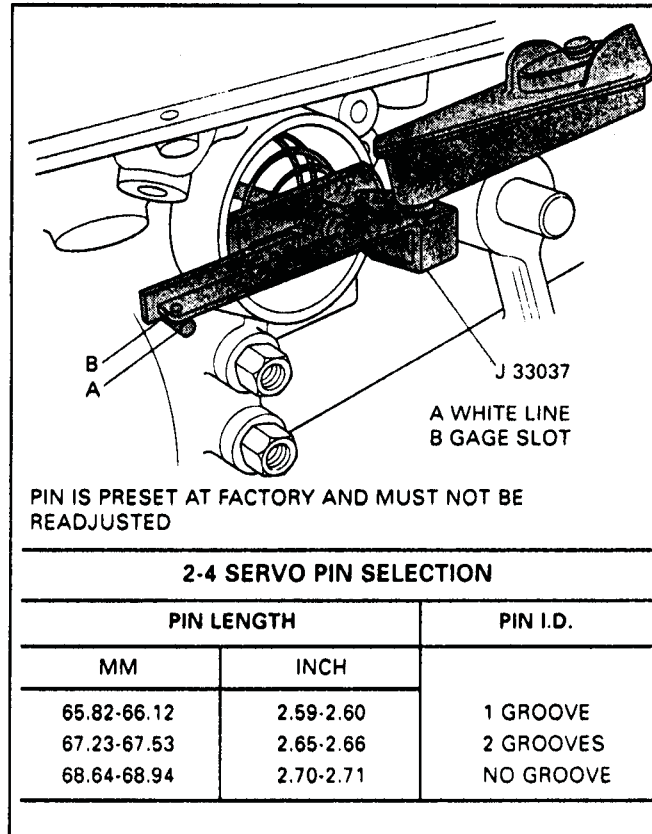

Figure 168
1. Install servo tool J-33037, as shown in Figure 168, with the servo pin you are going to use.
3. Apply 98 in.lb. torque, as shown in Figure 168.
4. If white line "A" appears in the gage slot "B", pin length is correct (See Figure 168).
5. Use the selection chart in Figure 168 to determine the correct pin length if a new pin is needed.